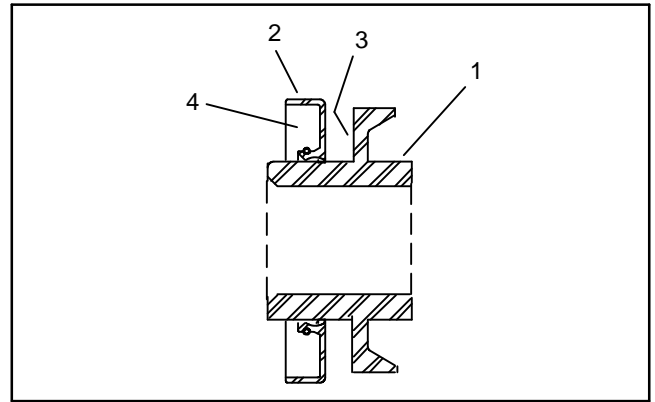

Figure 35
5. Apply a coating of grease to the nut surface to prevent seal damage during seal installation (Fig. 35).
6. Carefully install seals onto bearing lock nuts. Pack the back of the seal 75 to 90% full with #2 grease (Fig. 35).